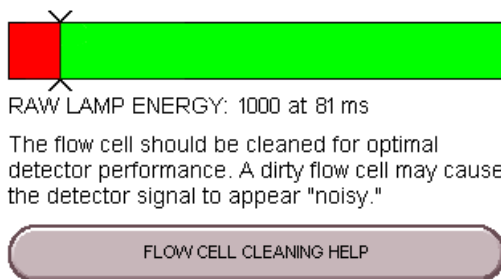

Figure 8-5 Raw Lamp Energy Gauge
2. From the Manual Control window (Figure 8-5), note the Raw Lamp Energy level at 254 nm. The Raw Lamp Energy gauge has two ranges: red and green.
If the numerical values of the Raw Lamp Energy (Figure 8-5) do not change, or if the first number remains at zero, contact Teledyne ISCO's Technical Service department.